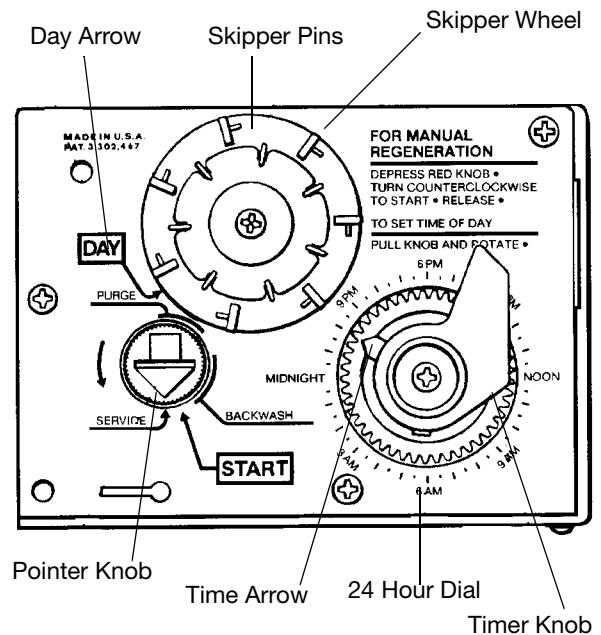

Figure 4
Note: The following steps will require turning the red pointer knob, (Figure 4), to various positions. Insert a wide blade screwdriver into arrow slot in pointer knob and press in firmly. With knob held in, rotate **COUNTERCLOCKWISE** until arrow on knob points to the desired position. (Rotation is made much easier if you grasp the camshaft with your free hand and turn it at the same time.) Then permit the pointer knob to spring back out.
2. Insert screwdriver into slot in pointer knob. (Figure 4). Press in and rotate knob **COUNTERCLOCKWISE** until arrow points directly to the word **BACKWASH**.
1. Set days of regeneration on skipper wheel (Figure 4).